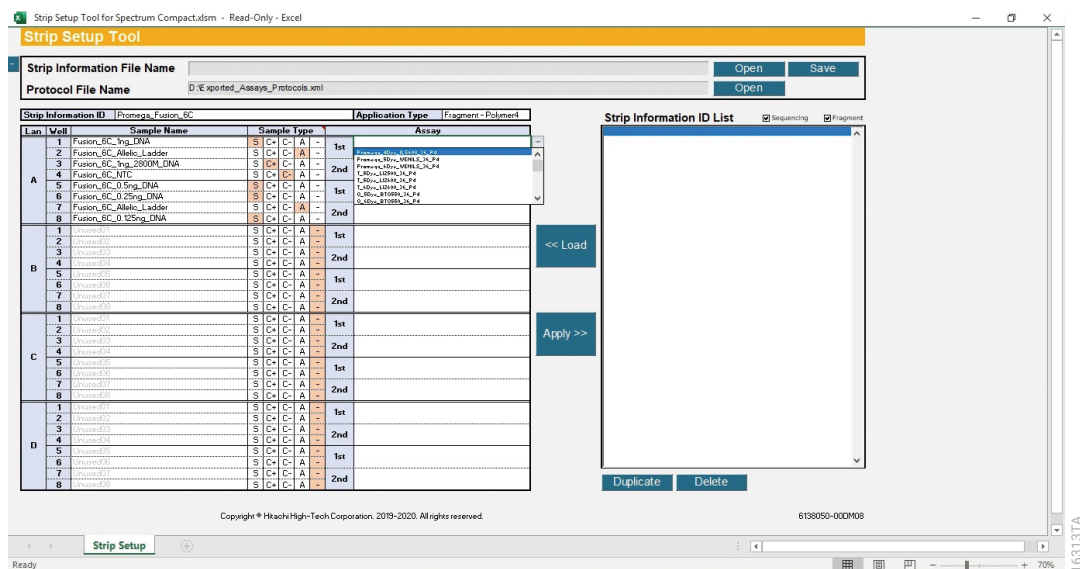

Figure 212. Strip Setup Tool for Spectrum Compact with Assay pull-down menu.
- To assign an assay to an injection set (set of four wells), select the cell under the Assay column to the right of the cell labelled 1st. This will activate a pull-down menu (Figure 212). Select the desired assay from the available list. Repeat for all injection sets.
- a. An asterisk appears in front of the newly created strip file name in the Strip Information ID List prior to saving the strip information as a .xml file. After saving as a .xml file, the asterisk disappears (Figure 212).